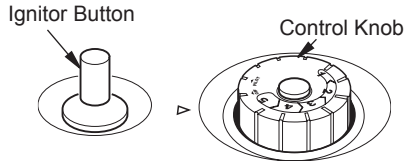

Figure 22 - Control Knob In The OFF Position (Piezo Ignitor Shown)
3. Turn thermostat control knob clockwise ↻ to the OFF position (see Figure 22).
5. Turn thermostat control knob counter-clockwise ↻ to the pilot position. Press in thermostat control knob for 5 seconds (see Figure 22).
6. Keep thermostat control knob pressed in while pushing down and releasing the ignitor button (see Figure 22). This will light pilot. If necessary, continue to press ignitor button until pilot lights.